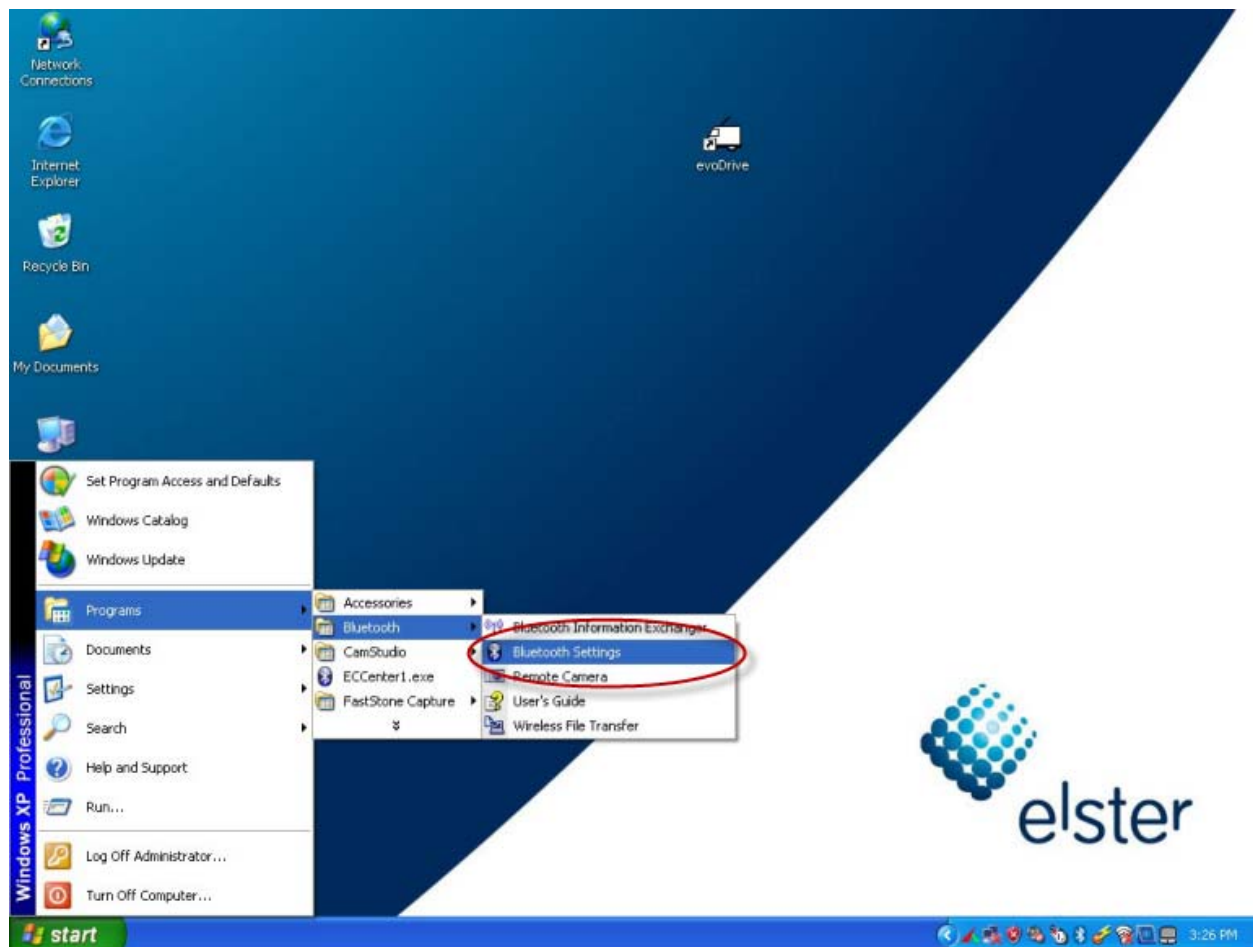

Figure 4: Reaching the Bluetooth settings to link the GPS unit
3. Go to the Start menu on the notebook and go to Programs, Bluetooth then Bluetooth Settings as illustrated in Figure 4.